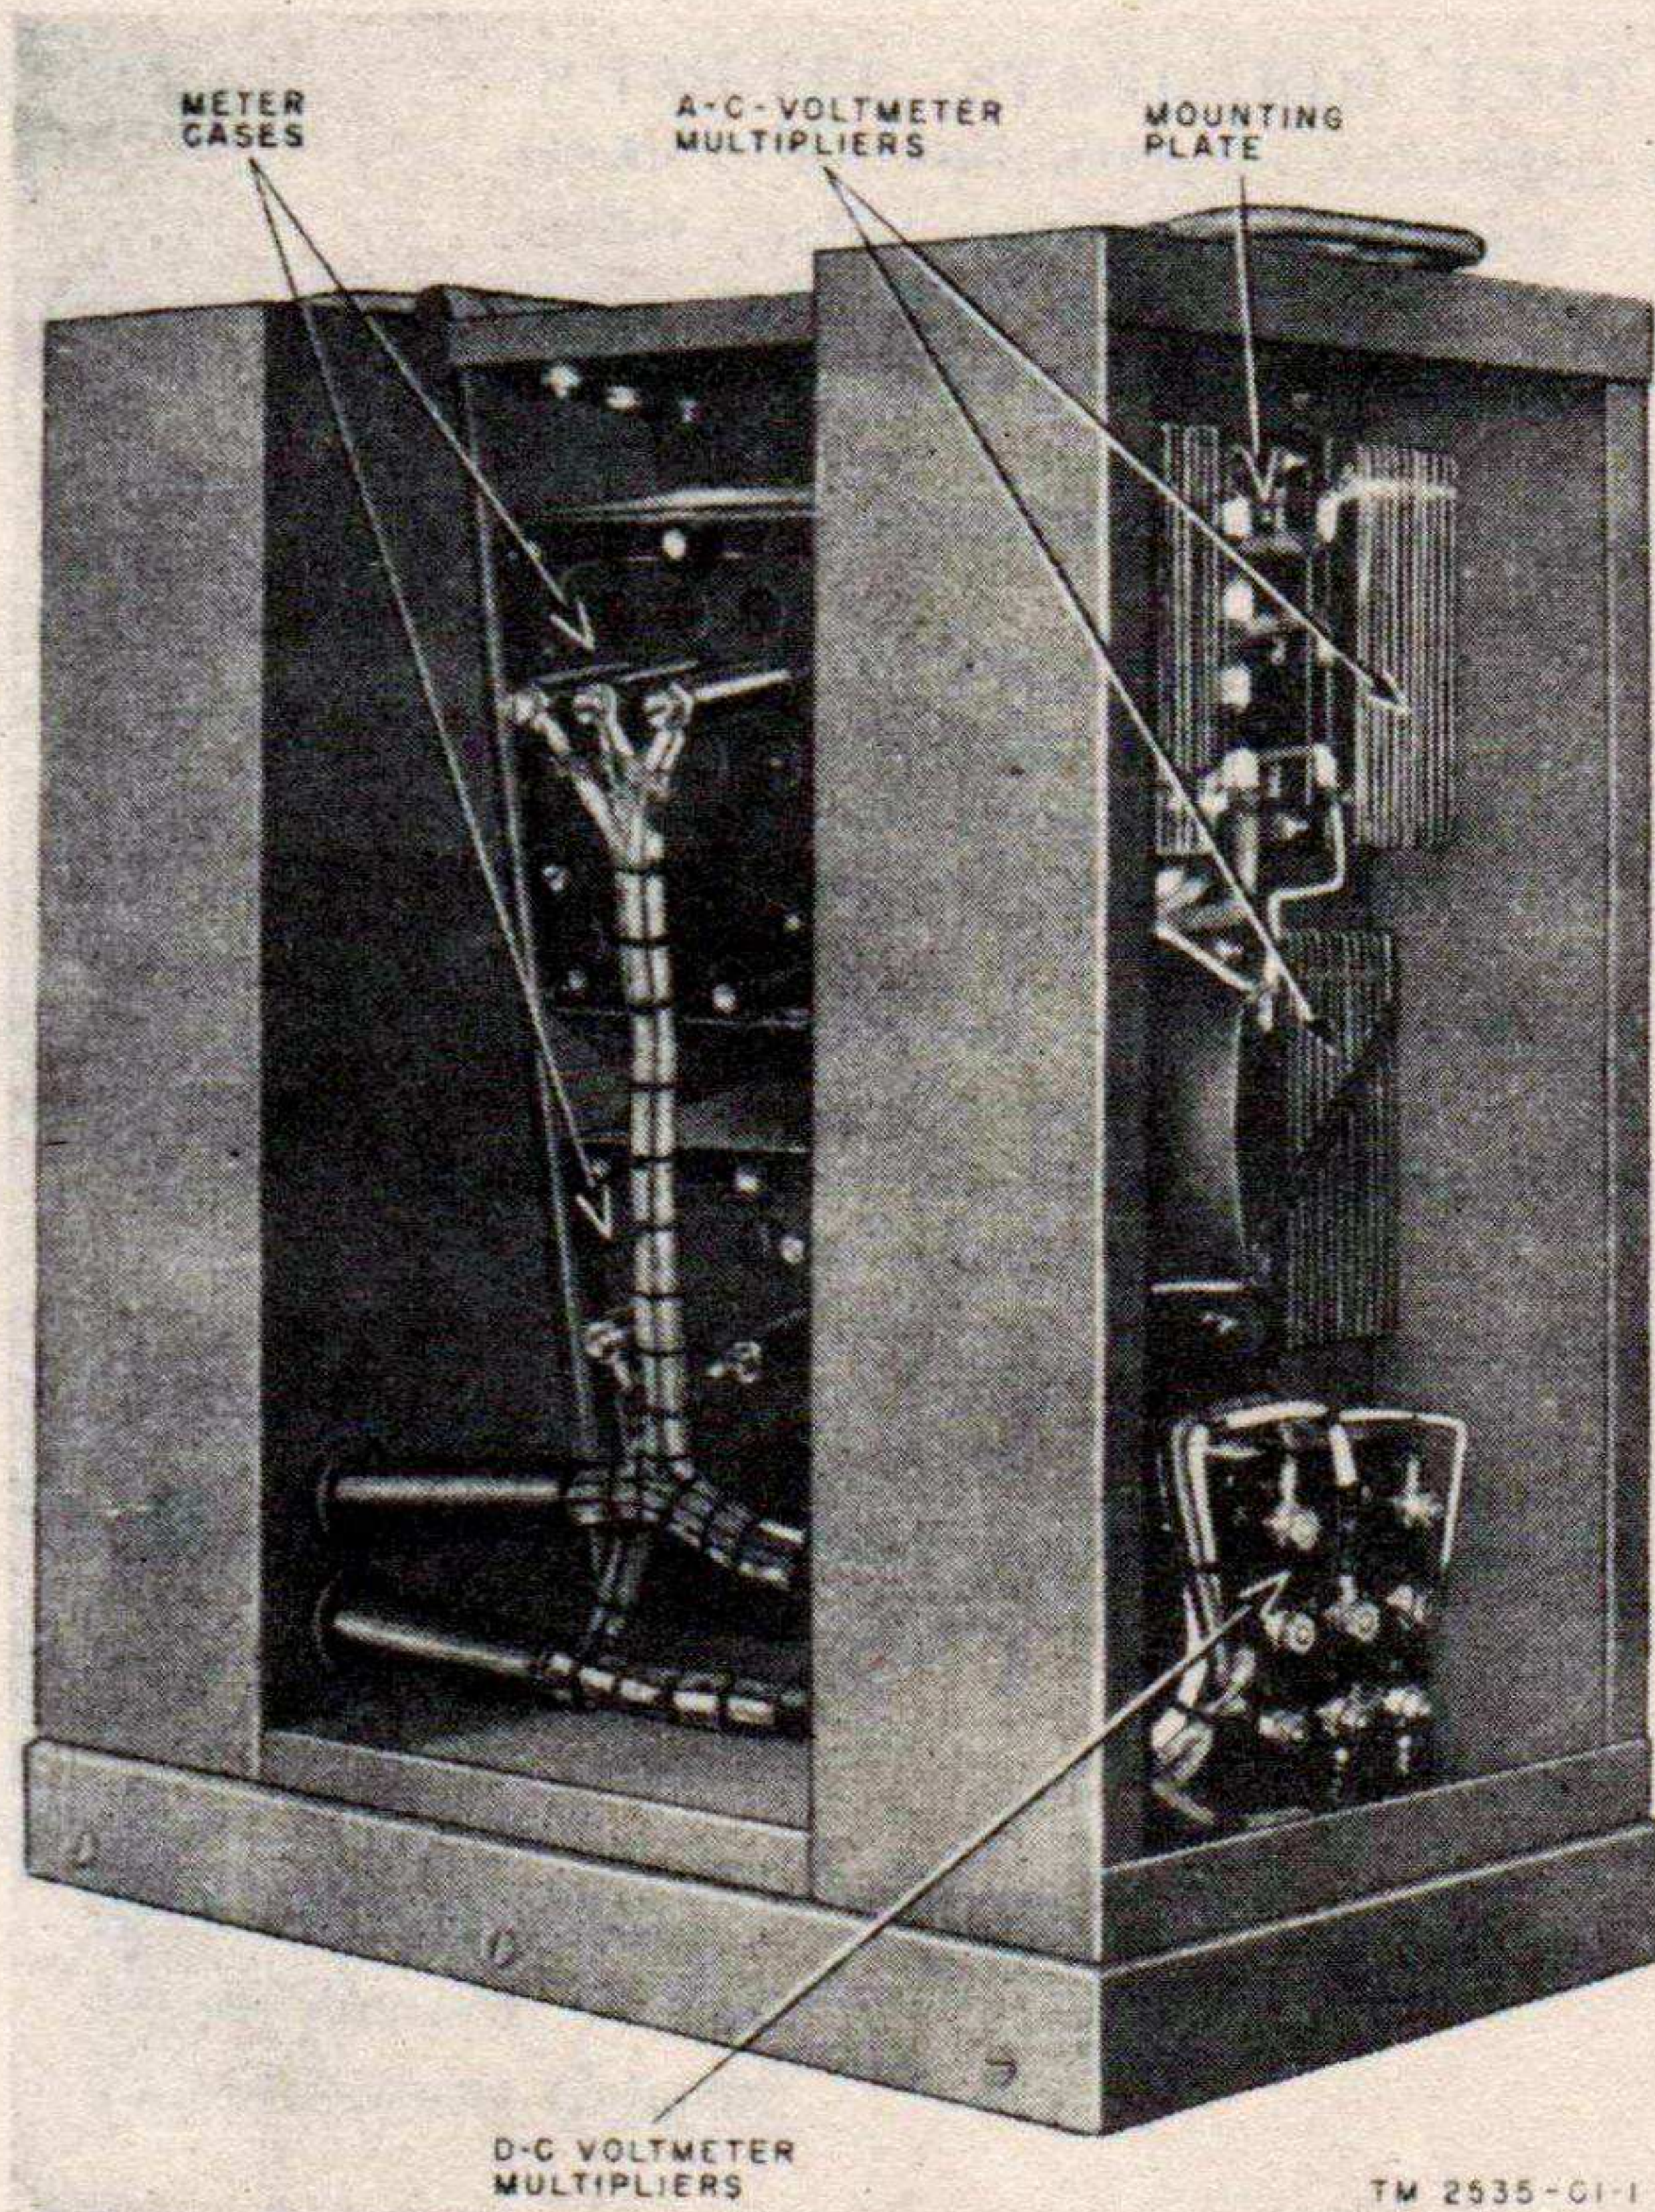

Figure 29.1 (Added). Interior of Voltmeter Standards Unit TS-49/GSM-1 (6783-Phila-51-04).
b. Disconnect leads to the meter (figs. 29.1, and 30).